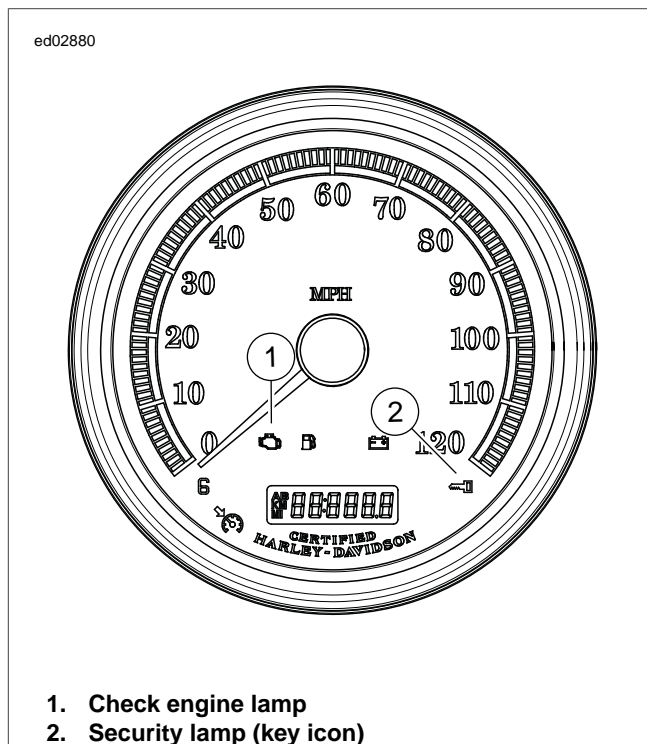

Figure 3-9. Check Engine and Security Lamp
- See Figure 3-9. When the Ignition Switch is turned to ON, the security lamp will illuminate for approximately four seconds and then turn off.